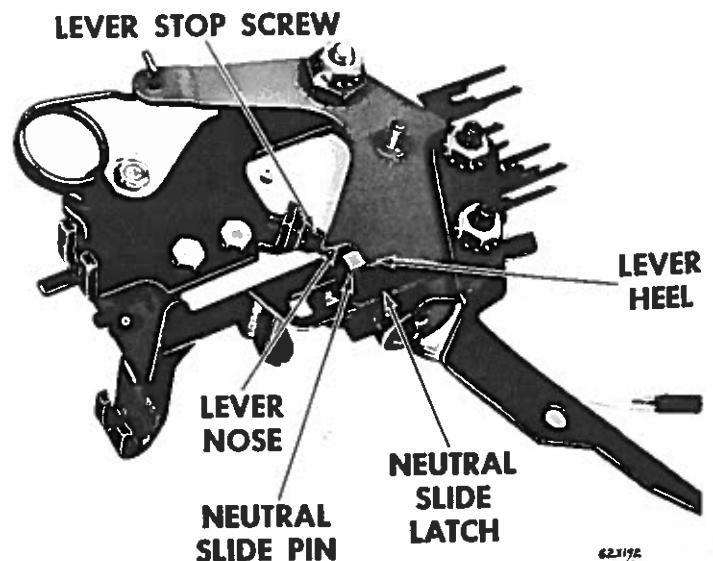

Fig. 10—Adjusting Lever Heel to Neutral Slide Pin Clearance
(4) Adjust the lever stop screw to obtain .010 inch clearance between the neutral slide pin and the lever heel (Fig. 10). Tighten the lever stop screw lock nut securely.